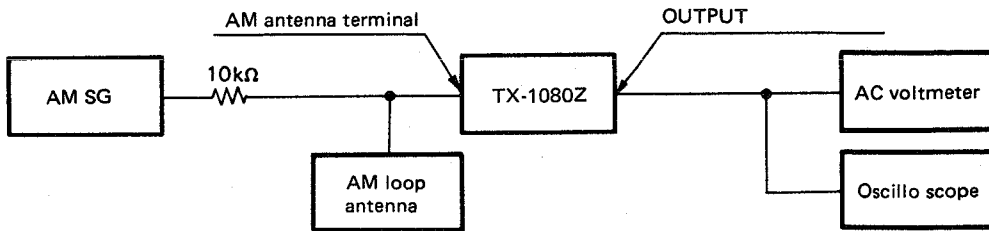

Fig. 8-2 AM Tuner Connection
- Make the connections as shown in Fig. 8-2.